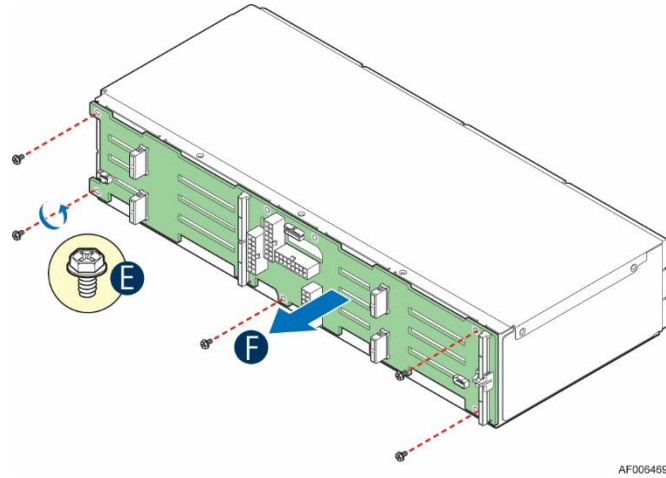

Figure 49. Removing the 16 x 2.5" backplane board from the drive cage
5. Remove the screws from the backplane board (E) and detach the backplane board from the drive cage (F) as pictured in Figure 49.